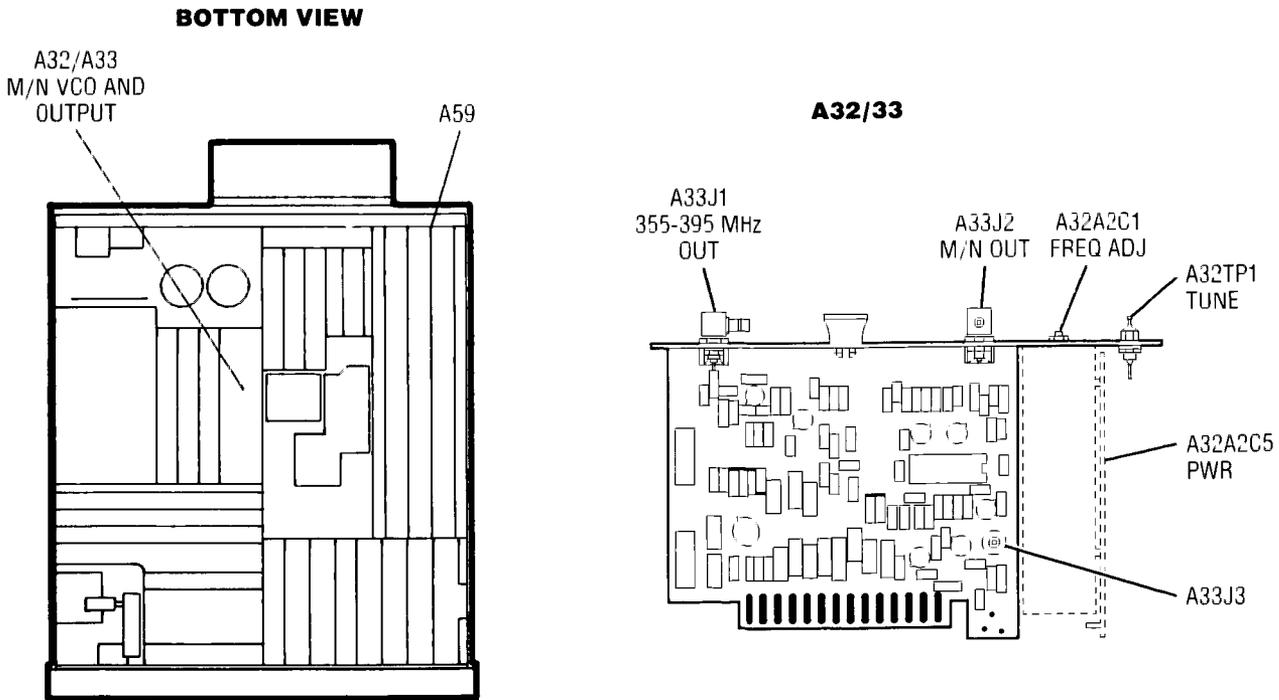

Figure 5-8. Location of M/N Loop Adjustments
6. Connect DVM to A32TP1 TUNE test point. Refer to Figure 5-8 for location of A32 assembly.
12. Disconnect the A32 output cable A32A1W1 from A33J3 (Figure 5-8) and connect this cable using SMB male-to-male adapter to the input of the Spectrum Analyzer. Set the DUT's LINE switch to ON and press **[INSTR PRESET]**
15. Adjust A32A2C5 PWR for a VCO output level of 0 dBm  $\pm 2$  dB as indicated on Spectrum Analyzer. Refer to Figure 5-8 for location of adjustment.